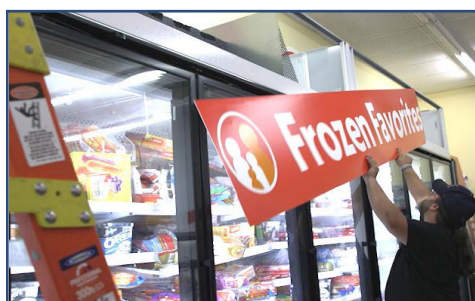

Fig. 90 Mount store signage to fascia
10. Mount the store signage to the fascia framework (Fig.90).